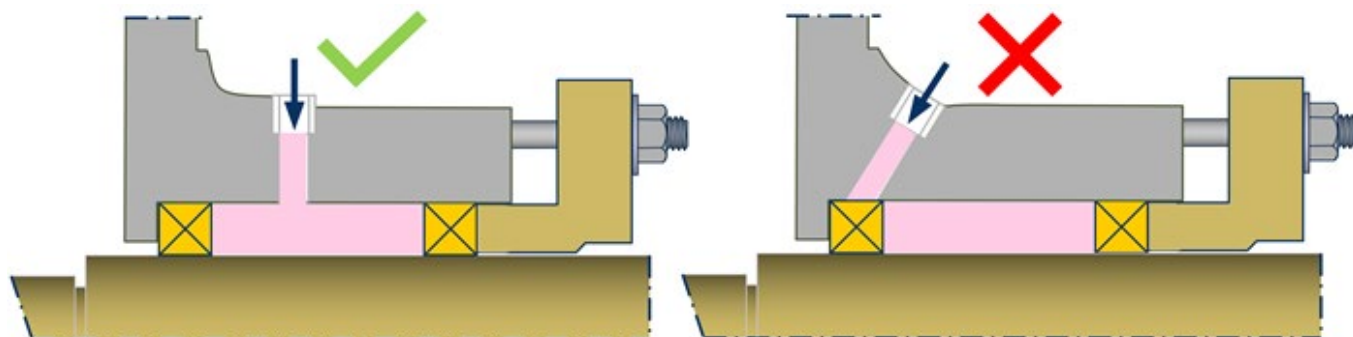

Figure 7: Injectable packing is not advised if the pump flush port is angled.
- Keep in mind the location of your lantern ring flush port. If the pump flush port is angled, chances are that injectable packing could fall on top of the bottom end packing ring blocking the access to the stuffing box (see Figure 7).